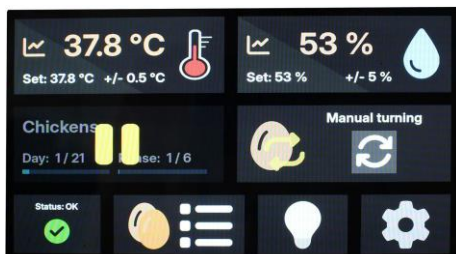

fig. 7
7. Press the “Paused” symbol in front of the grayed-out incubation program (fig. 7).